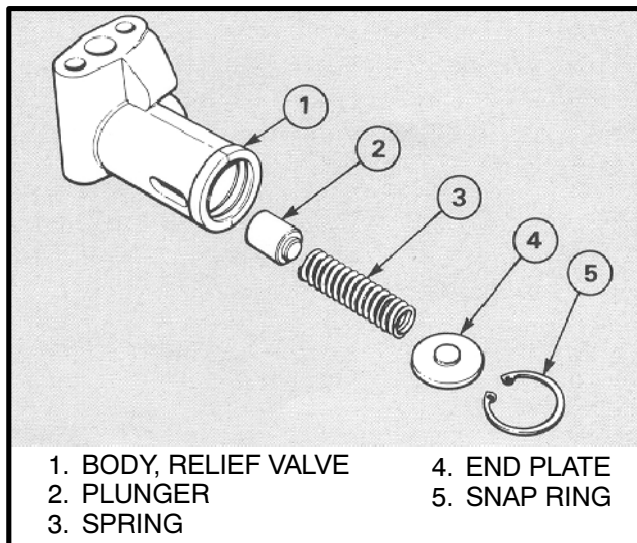

FIGURE 125. RELIEF VALVE ASSEMBLY
1. See FIGURE 125. Apply pressure against the end plate (4) of the spring assembly. Remove the snap ring (5). Carefully release the end plate (4) and release the pressure on the compressed spring. Remove the end plate (4), spring (3), and the plunger (2).
1. Lubricate the parts with engine oil during assembly. Install the plunger in the bore as shown in FIGURE 125. Install the spring and end cap. Compress the spring and end cap into the bore so that the snap ring can be installed. Install the snap ring.